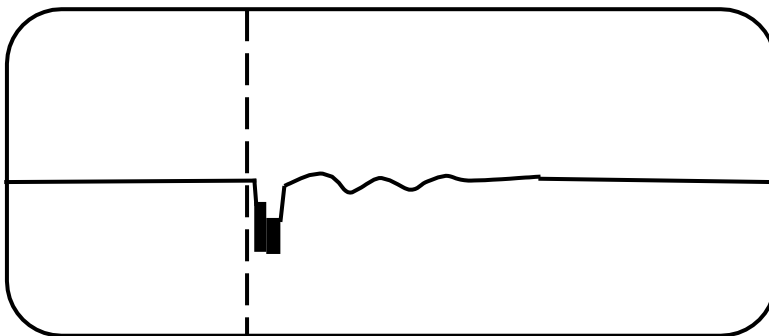

Fig. 6
This fault is similar to item 5.5 but happen at Cable joint which contaminated by wet environment. Fault trace is as Fig. 6 which after splice be followed by small sine or square that decreasing gradually.